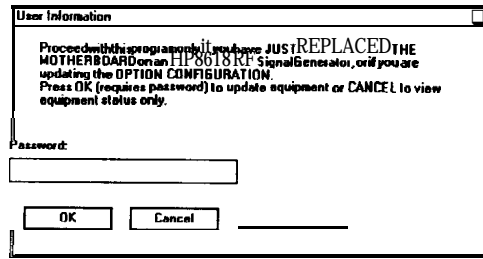

Figure 7-77.
2. When the User Information dialog box requesting a password is displayed (see Figure 7-77):